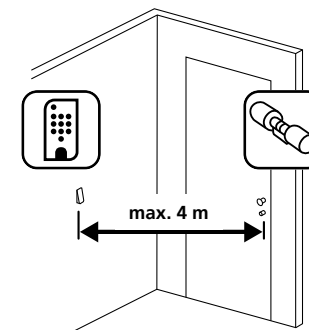

Fig. 1
- ① Place the keypad in the desired installation location (Fig. 1).